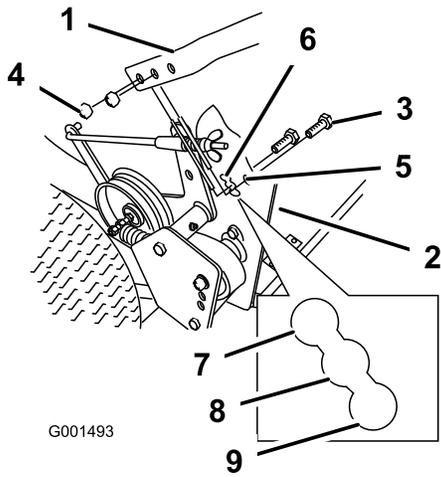

Figure 19
2. Loosen the upper bolts (3/8 x 1-1/4 inches) and flange nut securing handle to rear frame (Figure 19).
3. Remove the lower bolts (3/8 x 1 inch) and flange nuts securing the handle to the rear frame (Figure 19).